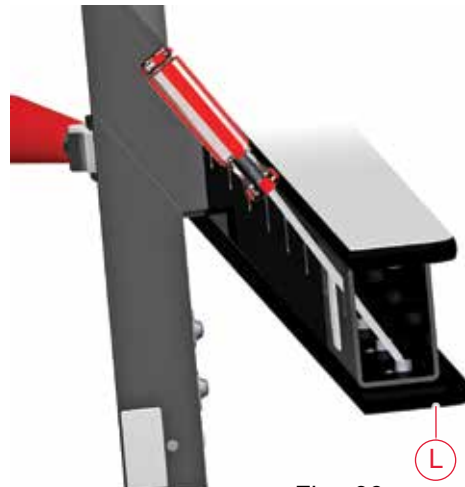

Fig. 36
If the right face plate needs to be adjusted, you must first remove the left face plate. Begin by laying the fence on the table with the left face plate (L) facing down. You can access the screws for the left face plate through the slots on the bottom of the fence. Insert the 5 mm ball end hex driver through the slot at the end of the fence and into the screw head (Fig. 36). Loosen the screw about one-quarter to one-half turn but do not unthread it completely. Continue this process with each slot/screw pair. It may be helpful to shine a flashlight down the end of the tube to illuminate the screw heads. Once all the screws are loosened push the face downward to align the screw heads with the large portion of the key-hole slots, and then pull the face plate off the fence.